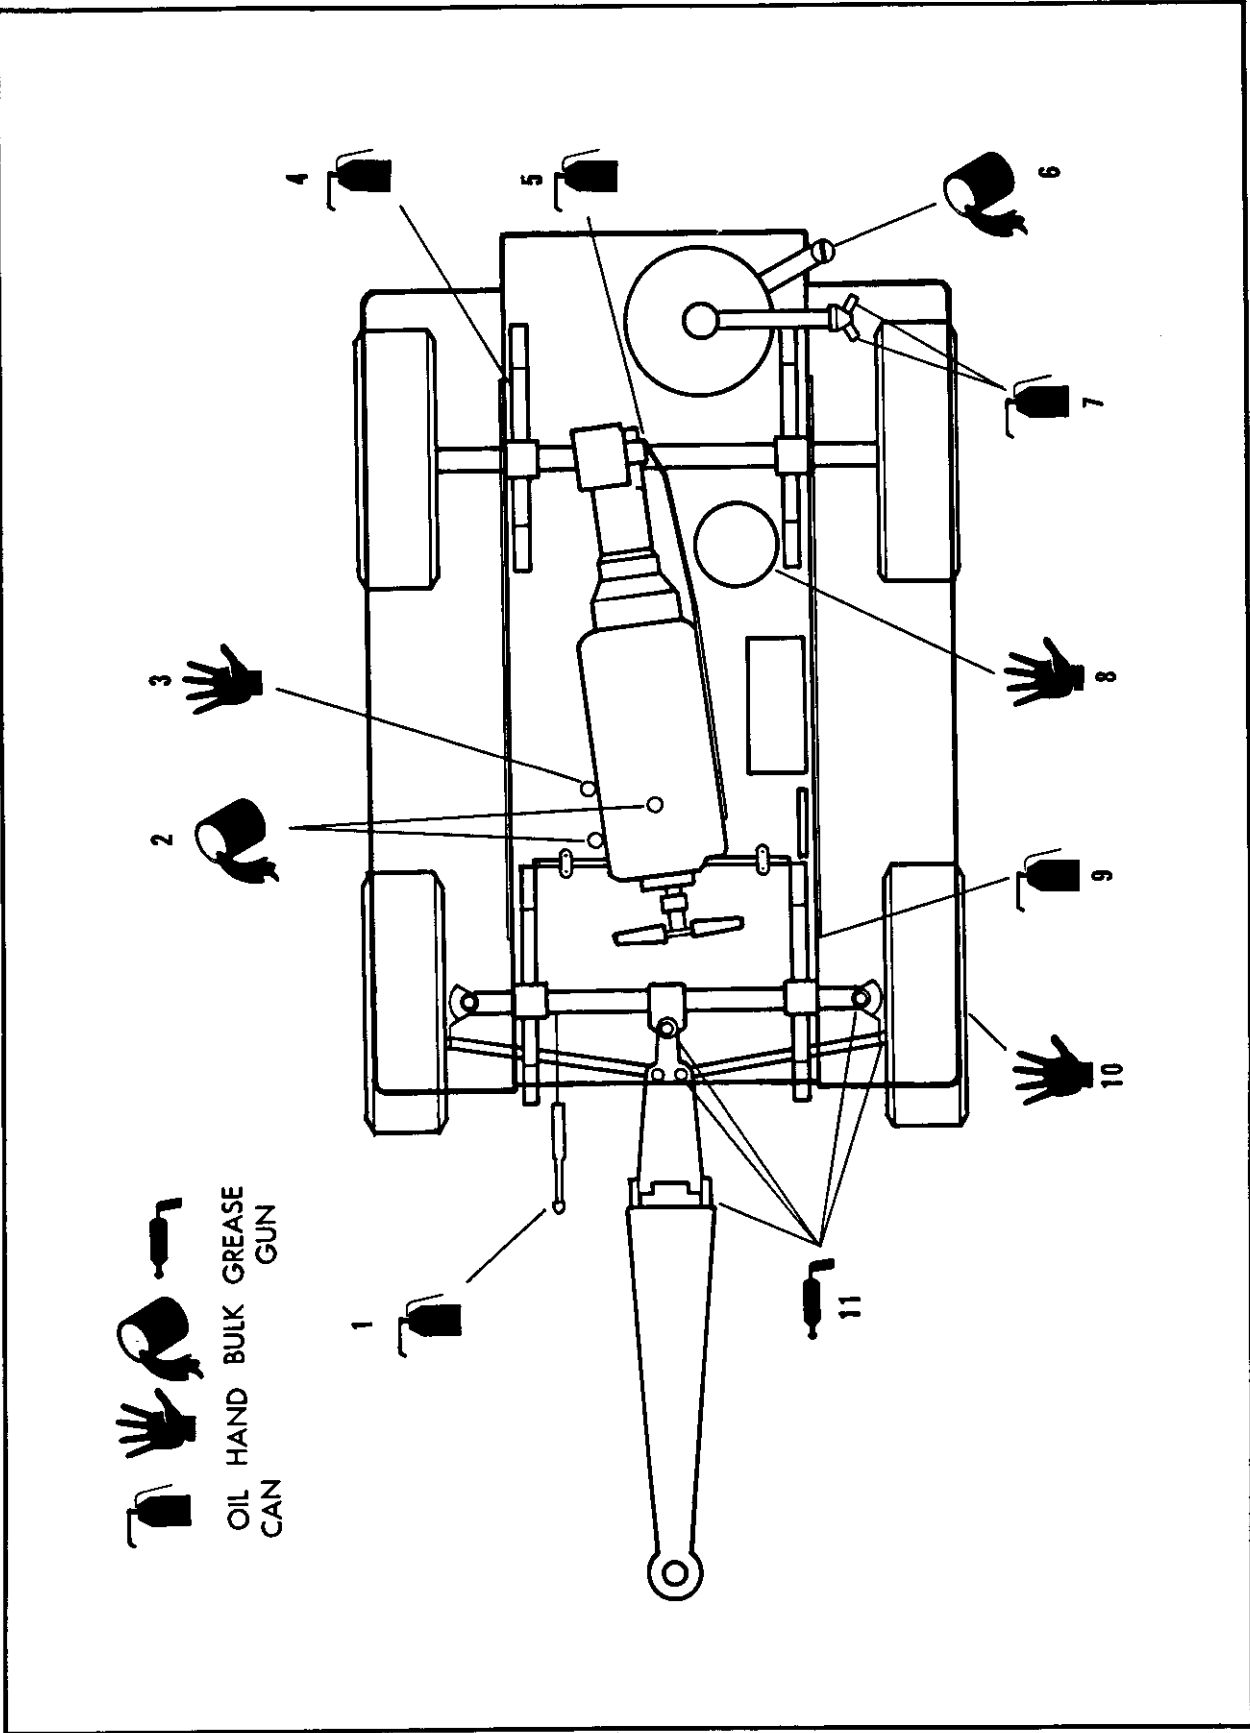

Figure 2-1. Lubrication Chart (Sheet 1 of 2)
Refer to figure 2-1, "Lubrication Chart", for the manufacturer's recommended lubricants and servicing intervals.
- (1) Check oil level in the receiver-oil separator by removing the filler plug and visually check level. If oil is low, fill to overflow with oil specified in figure 2-1. Recheck oil level after operating fifteen minutes (with unit stopped).